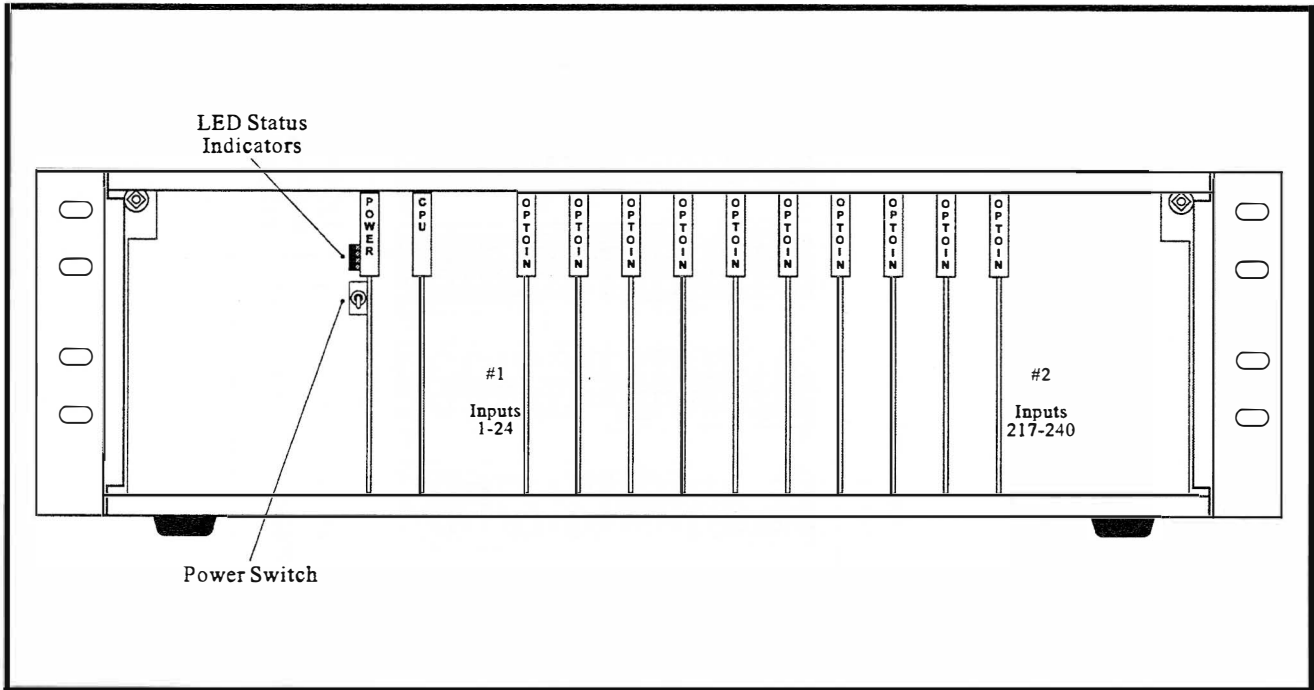

Figure 5
- Ensure that the power switch is in the off or down position. It is located towards the left side of the unit on the printed circuit board (PCB) labeled “POWER”. Refer to Figure 5 for a view of the PCB layout and power switch location.